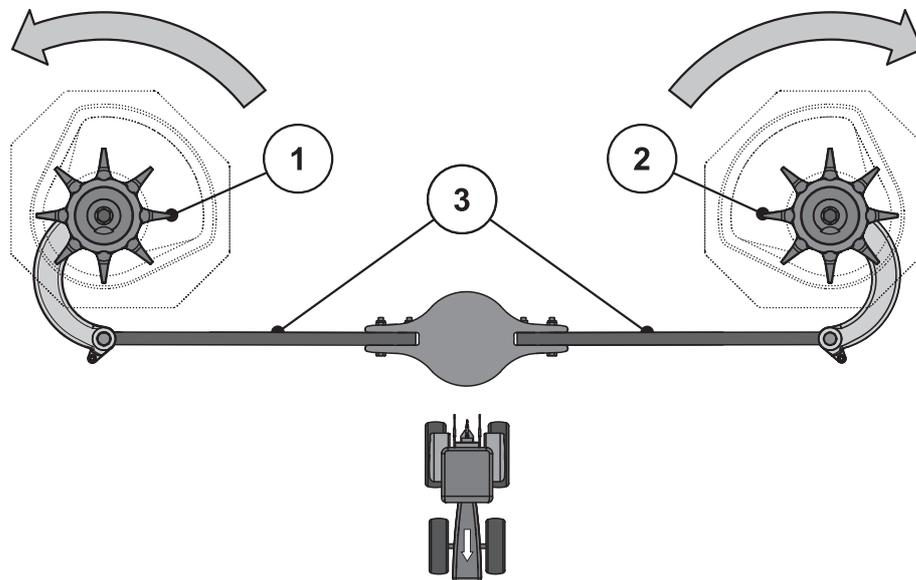

Figure 9.9: Checking the agitator drive
2. Manually turn the agitator head **into the rotational direction of the spreading disc**. See figure 9.9.
3. Turn the agitator head manually or with the help of an oil filter belt forcefully **against the rotational direction of the spreading disc**. See figure 9.9.